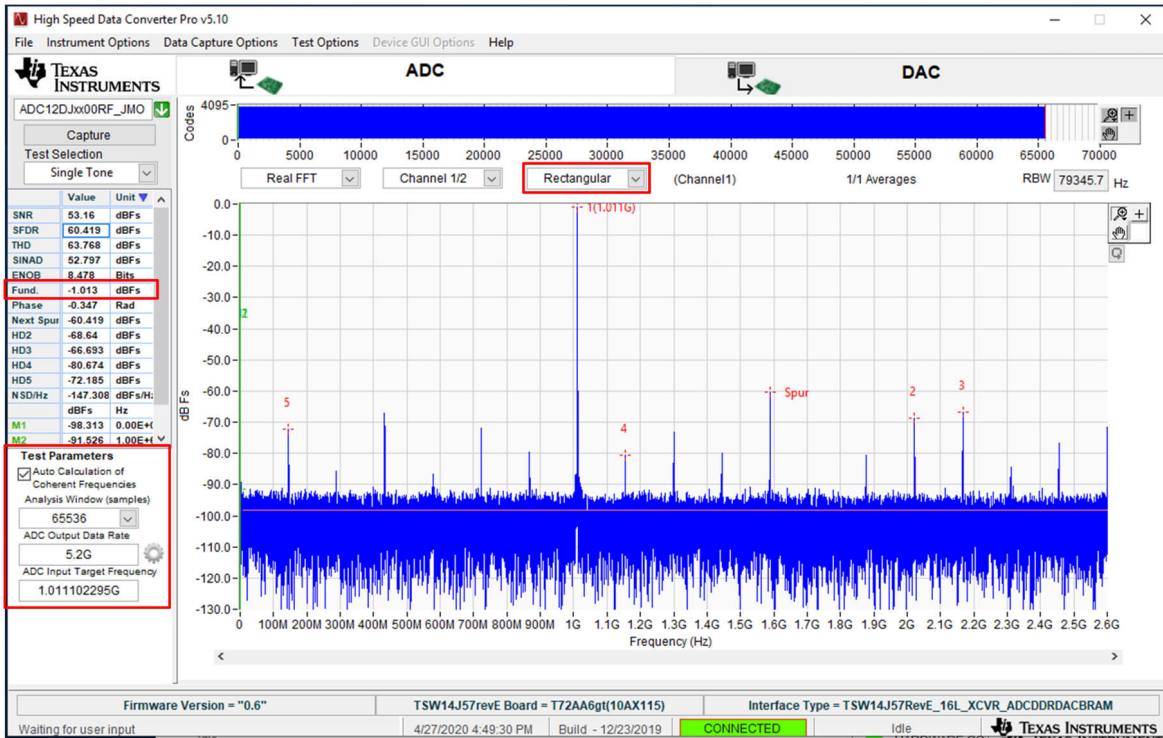

Figure 2-2. Example FFT Plot of the ADC12DJ5200RF Using Coherent Sampling
Next, select No Windowing or Rectangular Windowing in the FFT capture, enter the ADC sampling rate, and set the number of FFT points in the data-capture program or graphical user interface (GUI). Make sure that the data-capture board hardware can handle the number of FFT points. Then determine and calculate the exact analog input frequency and enter that frequency in the signal generator; you can also have to enter the frequency in the data-capture software. Figure 2-2 shows an example of a valid coherent sampled FFT data capture using the Texas Instruments (TI) ADC12DJ5200RF.